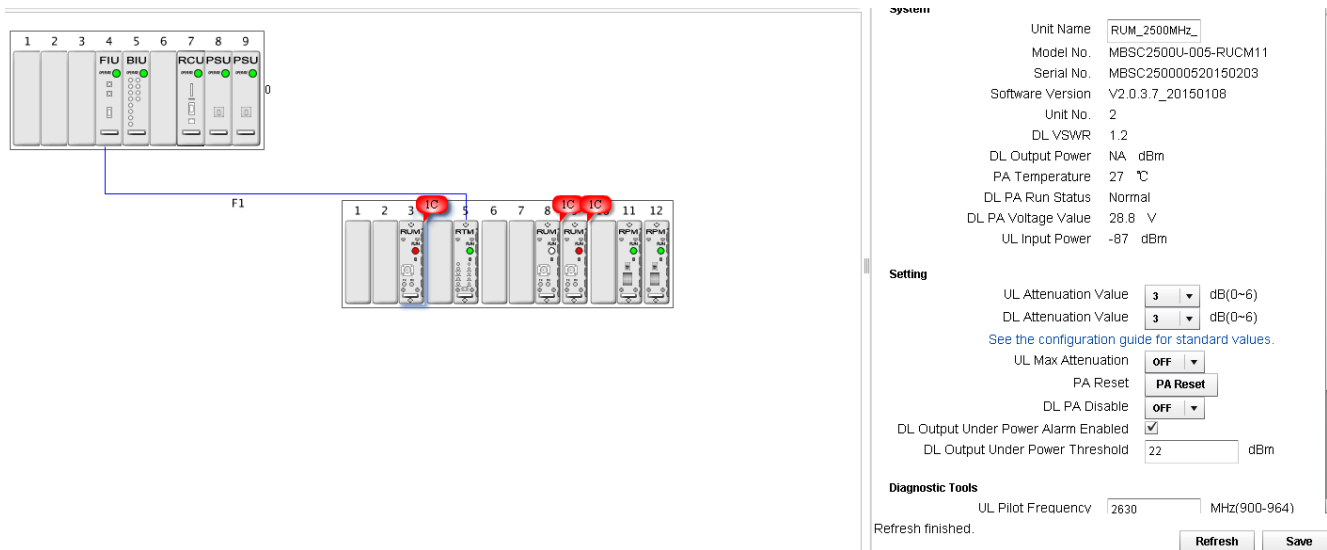

Figure 49 – Up/Down Link Verification
- a. In the topology window the Downlink Output power is displayed next to the specific RU (e.g. 30.7 dBm indicated in the topology diagram by the 800MHz RU in Figure 49 – Up/Down Link Verification)
1. Click on the RU for the desired frequency band. The component window ;will pop up as shown in Figure 49 – Up/Down Link Verification